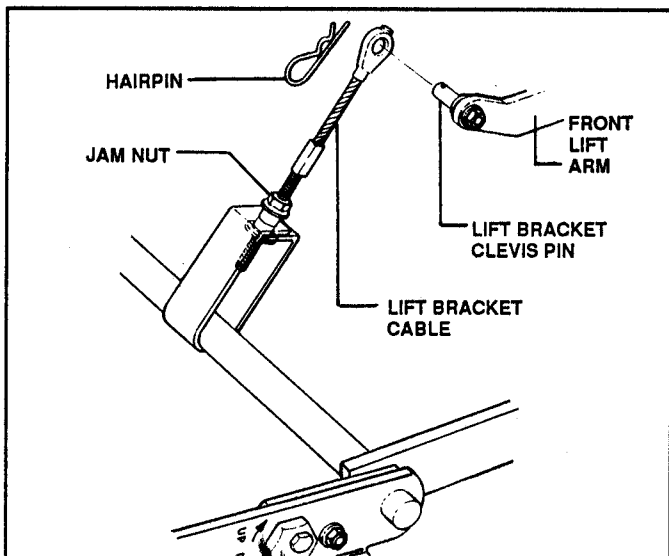

FIGURE 26
2. Remove hairpin from FRONT LIFT BRACKET CABLE clevis pin. See Figure 26.
5. Loosen the jam nut on the front lift cable and adjust until the front lip of the deck rests on the 2 x 4 block and the cable is tight. Tighten the cable jam nut and remove the block. See Figure 26 on Page 11.